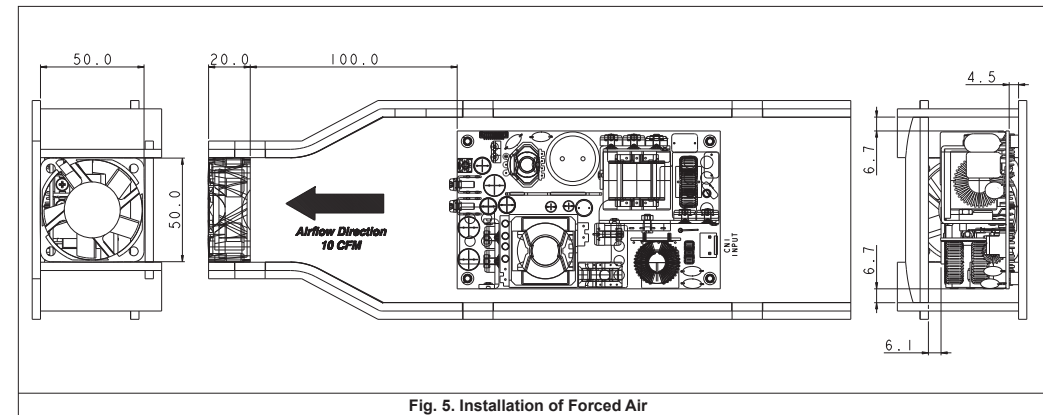

Fig. 5. Installation of Forced Air
6. Installation of Forced Air (Refer to Fig. 5)
► To ensure sufficient air flow, always maintain a distance and air flow direction as recommended in Fig. 5. while the device is in operation.